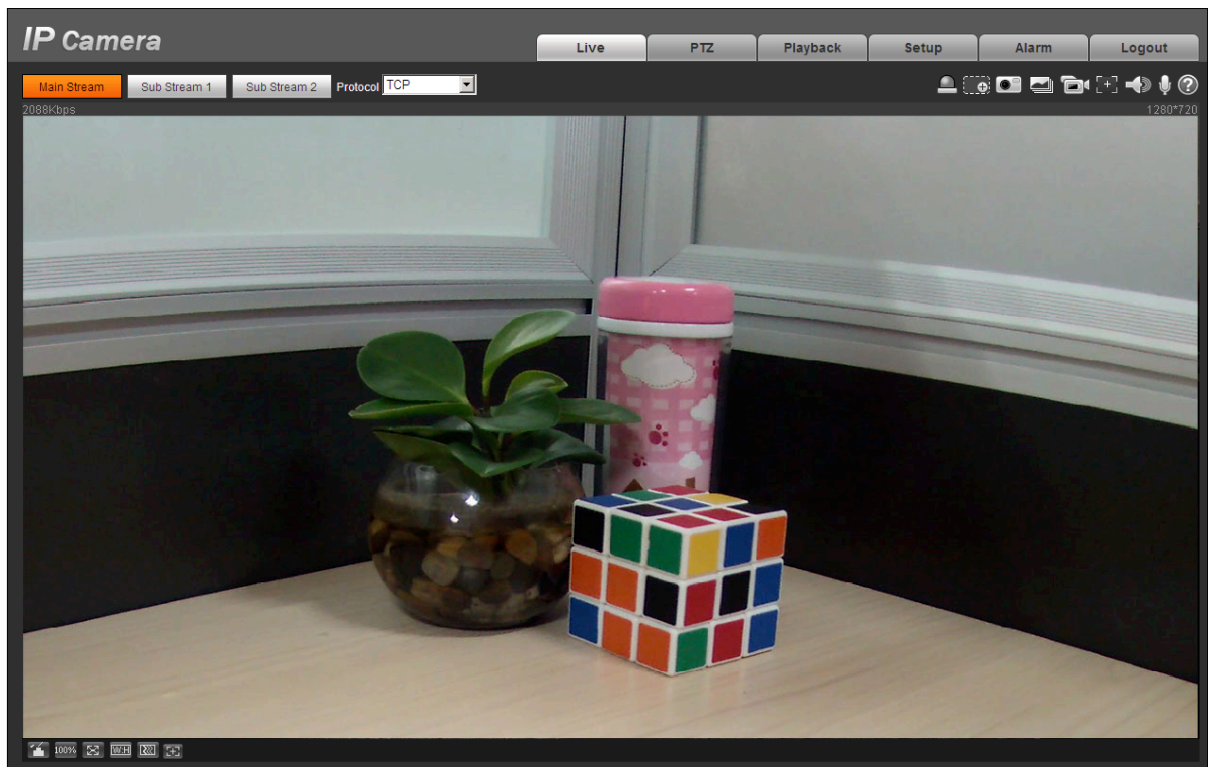

Figure 3-4
Step 3) Install controls according to the system prompt; see Figure 3-4 for the WEB main interface. Please modify the administrator password as soon as possible after you successfully logged in.